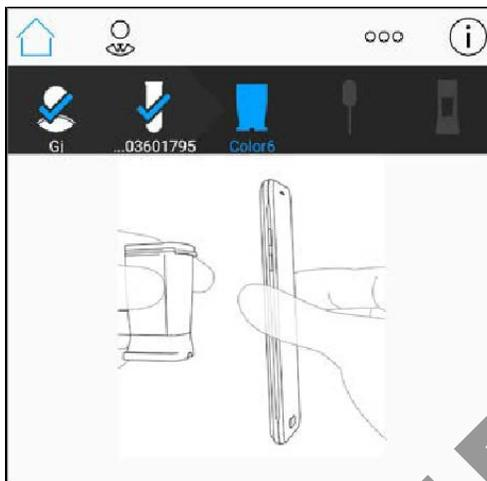

Figure 10. Scan Cartridge with Mobile Device
14. Using the screen animation on the mobile device as a guide, put the back of the mobile device close to the GeneXpert cartridge label to read the NFC tag embedded in the cartridge label (see Figure 10). **DO NOT** hold the reaction tube located at the back of the cartridge. When the mobile device reads the cartridge, it emits a single beep.